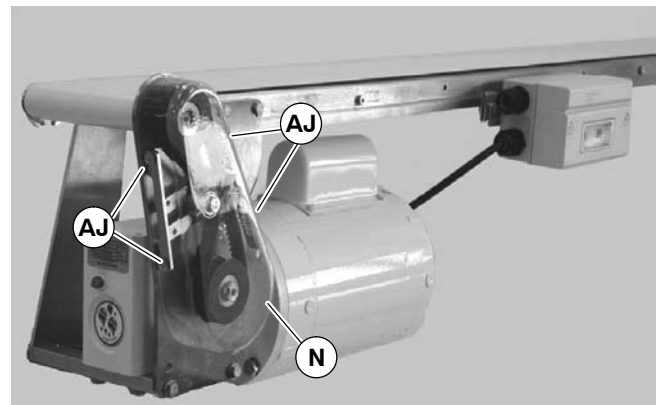

Figure 45
11. Attach cover (N of Figure 45) with screws (AJ). Tighten screws to 35 in-lb (4 Nm).